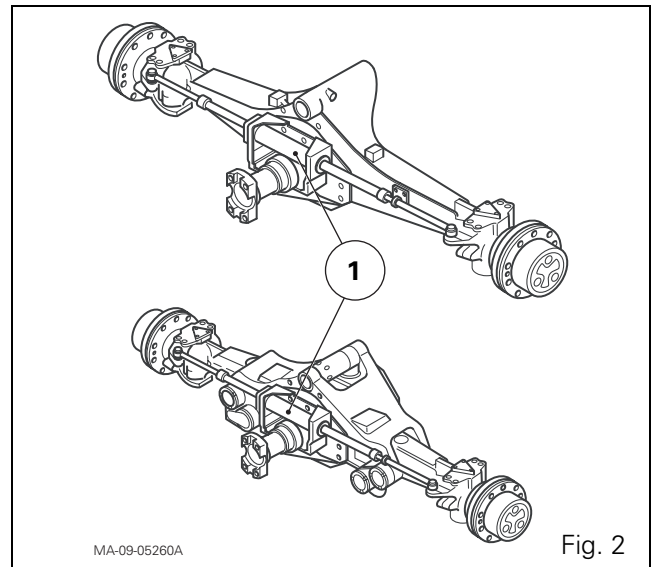

Fig. 2
- a double acting steering ram (1) (Fig. 2).